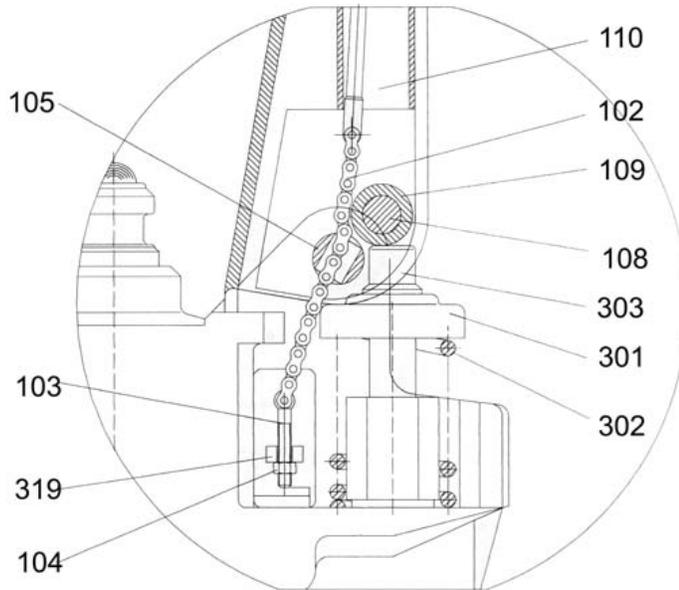

Fig. 3
2.2 Set the Control Handle (117) to the '**LOWER**' position, then pass the Adjusting Nut (104), Adjusting Bolt (103) and Chain (102Z) through the hole of the axle (105) by hand (See Fig. 3).